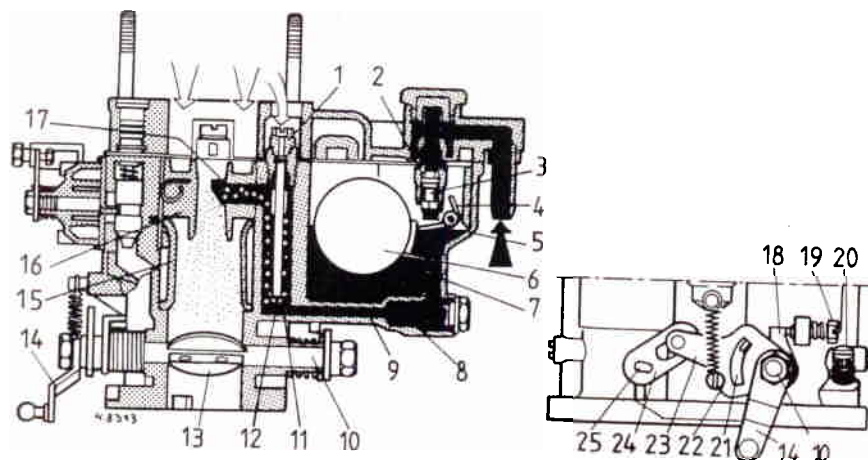

Fig. 6.5 Carburettor normal phase (Sec 3)
Refer to Fig. 6.5 and note that fuel from the float chamber (7) passes through the main jets (8) and channels (9) to the